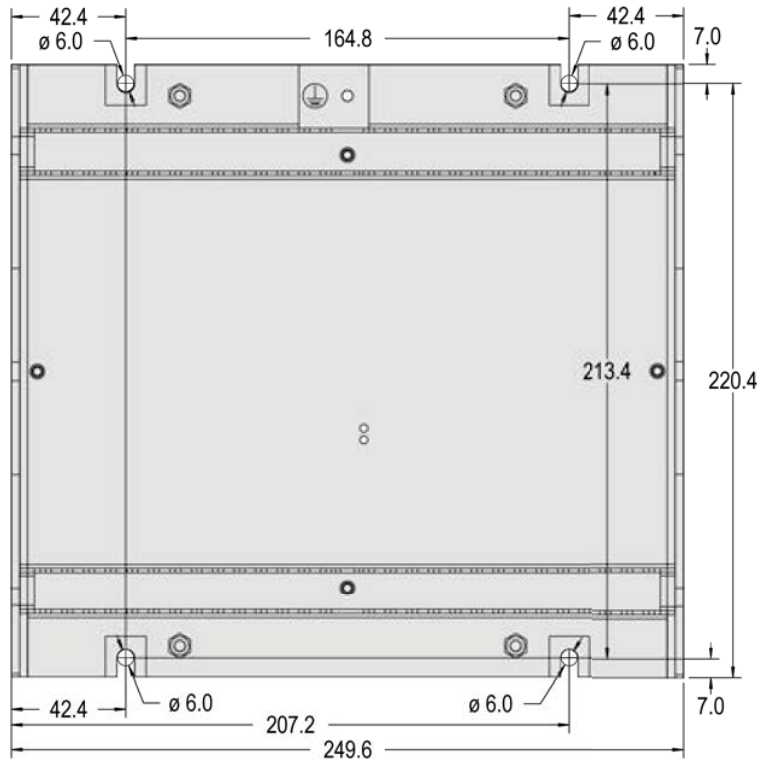

Fig. 10: Sheet metal housing - drill plan
1. Drill the holes according to the dimensions in Fig. 10 (dimensions shown in mm).